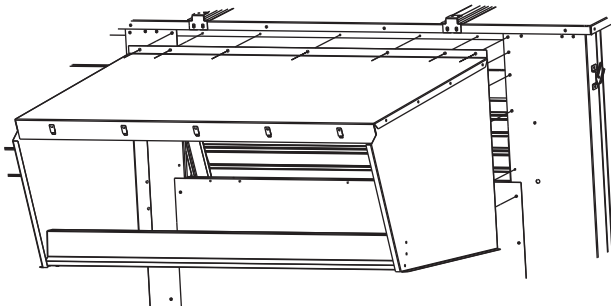

Fig. 29 — Removing Screws from the Outdoor Air Opening of Unit
8. Remove the screws on each end and along top of the outdoor air opening of unit. Set hood assembly in place and attach to unit using gasketed screws. See Fig. 29.